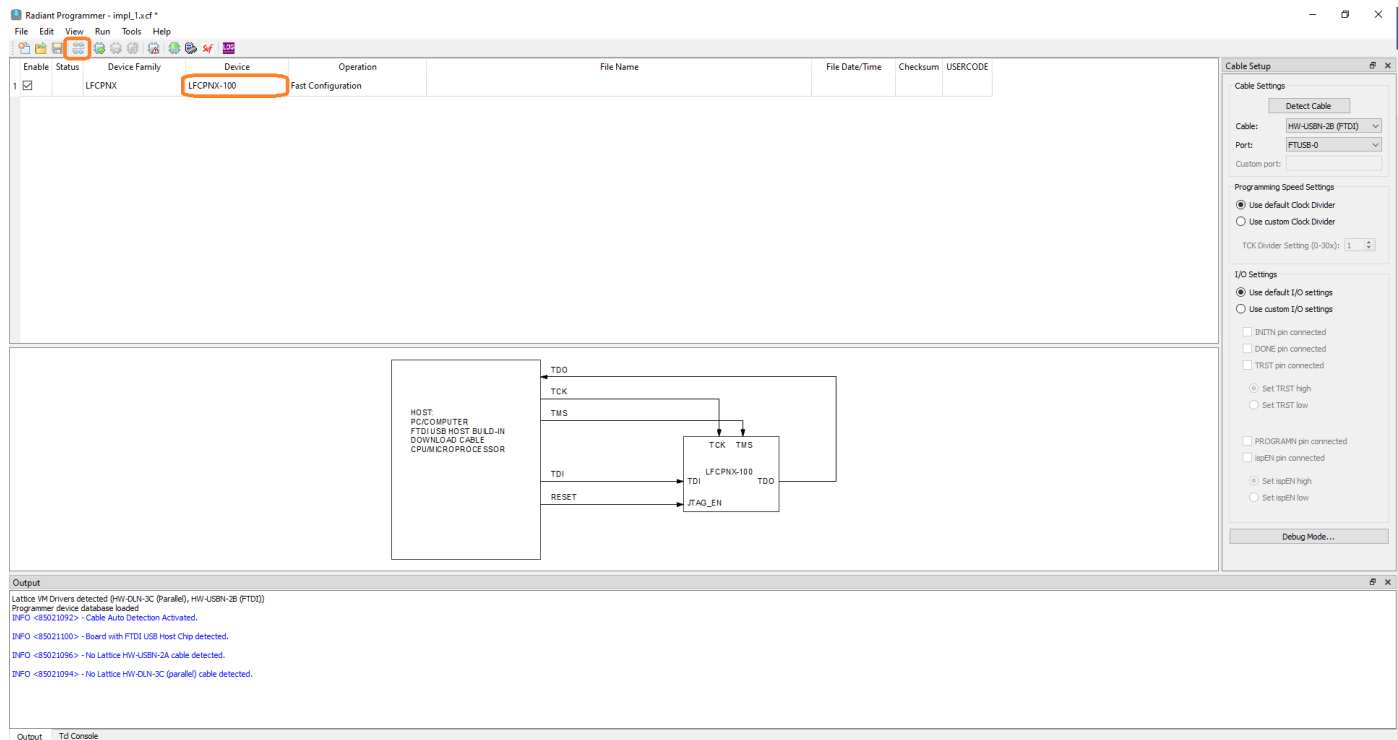

Figure A.2. Radiant Programmer
4. Radiant Programmer opens as shown in Figure A.2. Click the **Scan Device** button and under **Device**, choose **LFCPNX-100**.